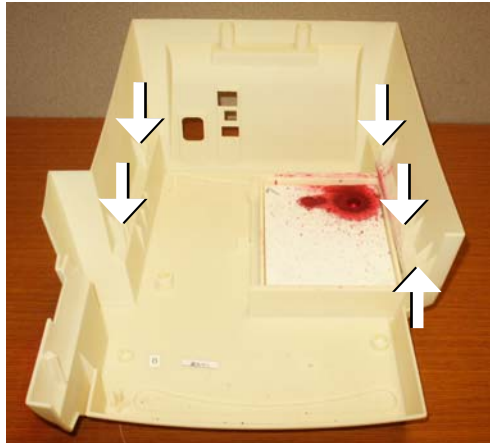

Figure 5-11 Base Pan Mounting Screw Locations. Chassis Removed for Purpose of Illustration.
2. Remove five screws located inside base and one screw located on side (Figures 5-11 through 5-13).